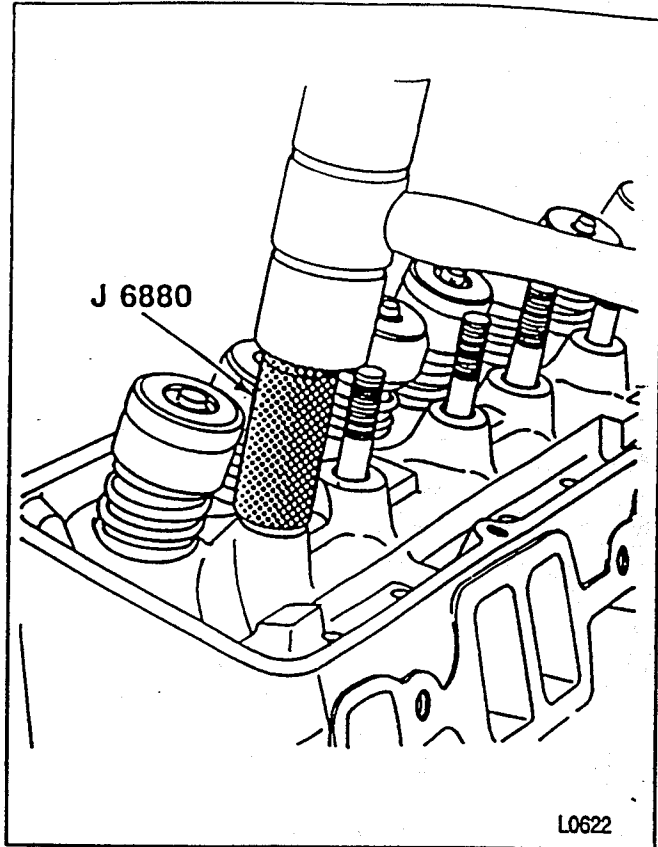

Figure 60—Installing the Rocker Arm Stud (5.0L and 5.7L Engines)
3. Coat lower end (press-fit area) of stud with hypoid axle lubricant. Drive the stud into place with a hammer and J 6880. Stud is installed to proper depth when the tool bottoms on the cylinder head (figure 60).